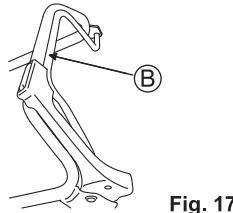

Fig. 17
4. Push the drive clutch lever (B) forward to start mowing. (See Fig. 17)